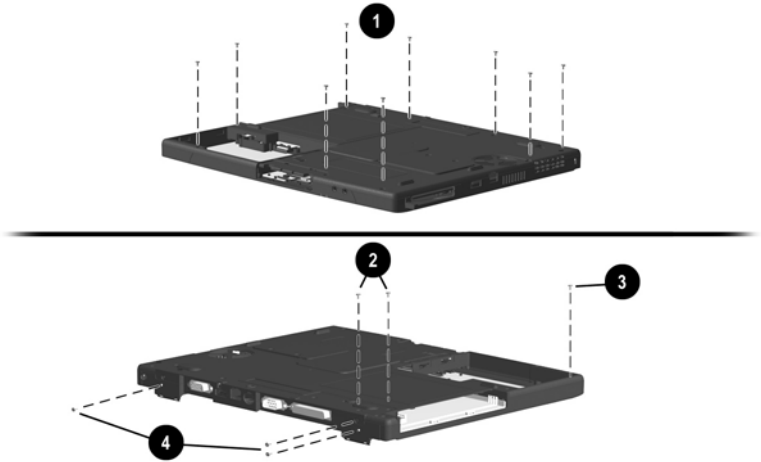

Figure 5-8. Removing the Top Cover Screws
- ❑ Nine pewter M2.5 × 7.0 screws from the recesses in the bottom of the computer ❶ (Figure 5-8)
- ❑ Two black M2.5 × 4.5 screws ❷ from the bottom of the computer
- ❑ One silver M2 × 5.5 screw ❸ from the battery bay
- ❑ Three black M2.5 × 4.5 screws ❹ from the rear panel of computer